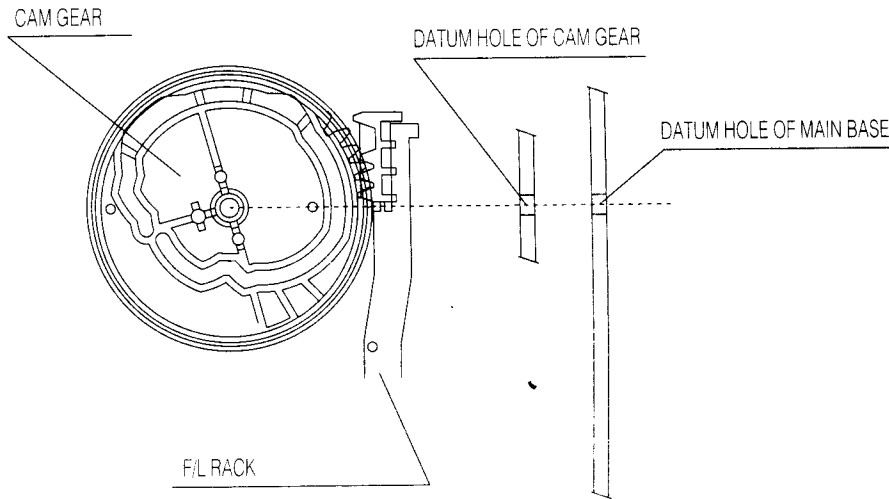

Fig.4-1 DATUM POSITION OF F/L RACK & CAM GEAR
## 4-1. MECHANICAL ADJUSTMENT (See Fig.4-1~4-5)
- a. Make sure that the DATUM HOLE of the CAM GEAR is aligned with the DATUM HOLE in the MAINBASE in the EJECT mode as shown in Fig.4-1.